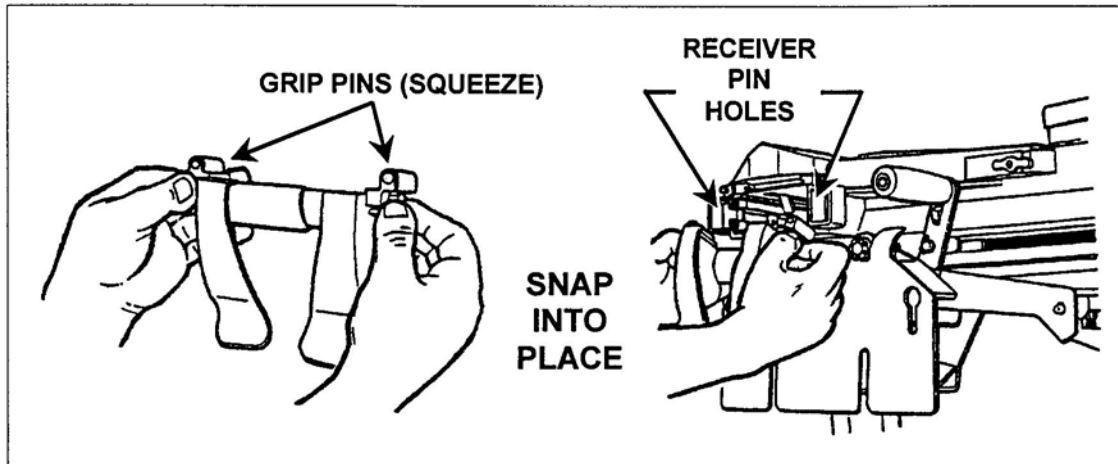

Figure 10. Attaching the Feed Throat Assembly
7. Attach the feed throat assembly (Figure 10).